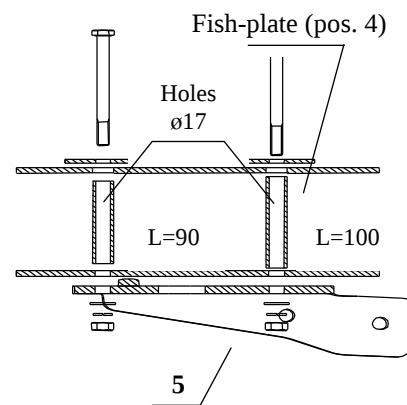

Fig. 2.
3. Put element (pos. 6) to the right chassis member (do it in such a way that a pin is compatible with a original holes and holes pos. C are compatible with a threaded holes. Fix it with bolts from the original towing eye.
4. Drill $\varnothing 10,5$ mm through holes (pos. A and B) of element pos. 6 to the inside part of the boot. Then enlarge this hole by a drill $\varnothing 17$ mm (do it only inside the boot). Next, slide a spacers $L = 90$ and 100 mm, as it shown a sketch, and fix it with bolts according to figure 2.
5. Position element (pos. 5) to the left chassis member (do it in such a way that a pin is compatible with a fabric holes), then position the element in such a way that its edge raze to an chassis member's edge (compare to the right side). Drill $\varnothing 10,5$ mm through the holes (pos. A and B) to the boot . Other activities like in point 5.
6. Slide main bar (pos. 1) between brackets (pos. 5 and 6 and fix it with M12x35mm bolts (pos. 9).
7. Fix body of the automat and place tow-ball according to supplied instruction. Note! Remember to place socket plate (pos. 3) as shown on the drawing 1.